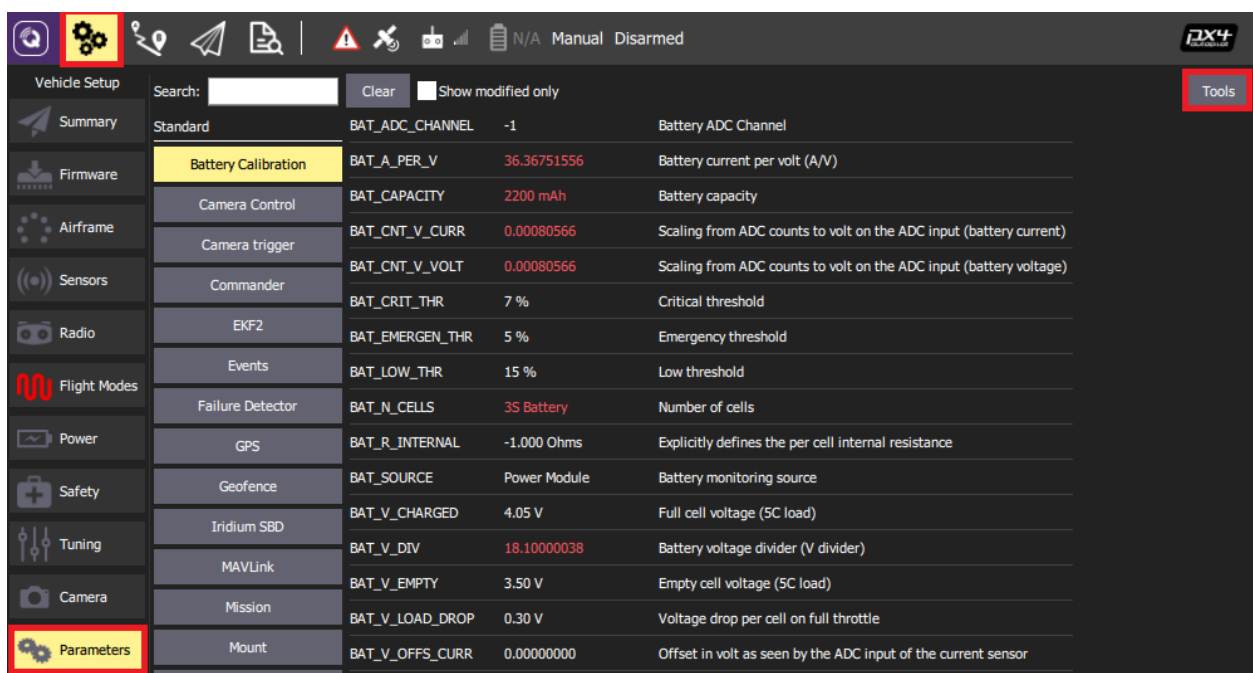

Figure 21: QGroundControl Interface to Load Parameters from File.
2. **Resetting the Parameter Configuration:** Connect the Pixhawk to the user's computer and open QGC. Go to the `Vehicle Setup` view, select the `Parameters` option, and click the `Tools` button on the right side (see Fig. 21). Then choose "Load from file". Navigate to the USB Stick and choose the file `parameters_UAXS.params` which is in the folder `/QGroundControl`. Finally, restart the Pixhawk by unplugging the power connection and reconnecting.